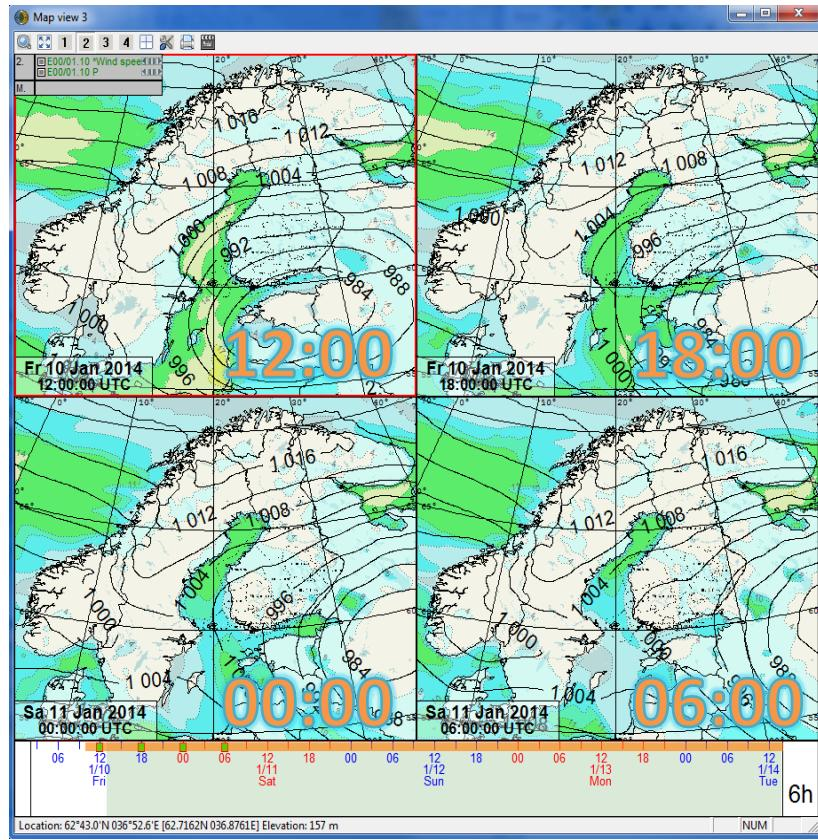

Figure 2.10 Grid in running times mode. Multiple time steps from one map row are shown.
- *Running times*: all maps of the grid are showing the same map row, but different time steps (Figure 2.10).